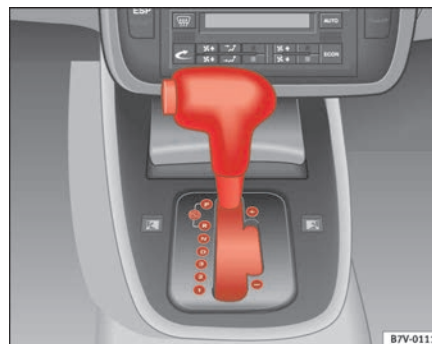

Fig. 128 Centre console: selector lever of the automatic gearbox with locking button
- Press and hold the brake pedal and press the selector lever lock on the left of the selector lever at the same time ⇒ page 168, fig. 128.
- Press and hold the lock button (button on the knob of the selector lever) ⇒ page 168, fig. 128, select gear position (**R**, **D** or **S**).